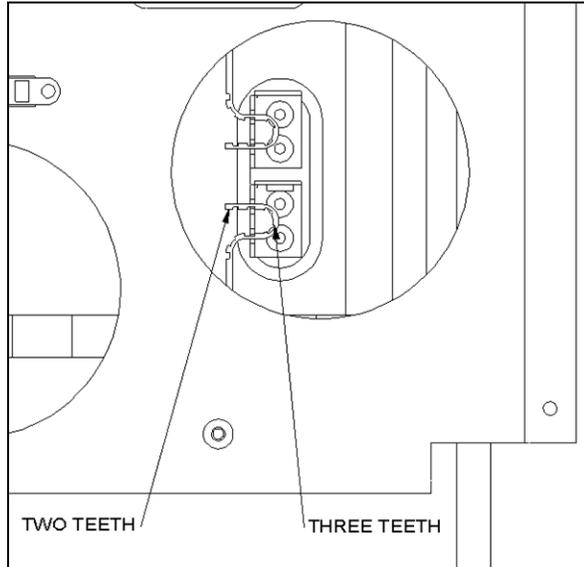

Figure 13-25 Y-Drive Belt Bracket
- 1 Install the 282.5 mm Timing Belt (Part No. 320000600) into the belt brackets with two teeth exposed and three wrapped around and through the slot on the bracket as shown in Figure 13-25.